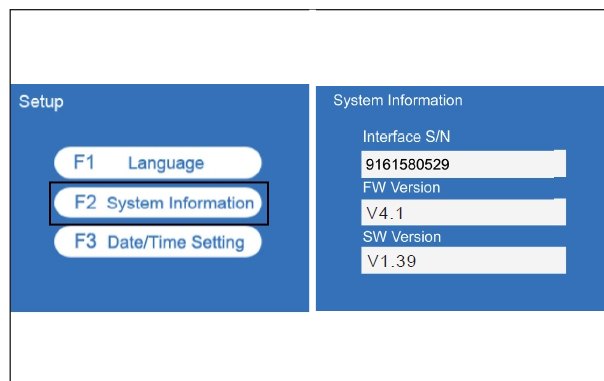

Fig. 7.24
- This menu will have information about the diagnostic tool like Interface number, Hardware version and Software version. (Fig. 7.24)